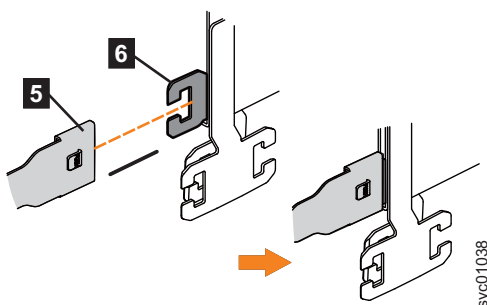

Figure 102. Attach the support rail connector of the upper CMA to the right support rail
4. Attach the support rail connector on the upper CMA assembly (**5**) to the connector base on the right support rail (**6**), as shown in Figure 102.